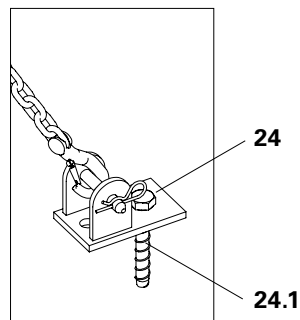

Fig. A7.03b
3. Secure Anchor Chain to Base Plate using bolts, and secure bolts by means of cotter pins. (Fig. A7.03b)